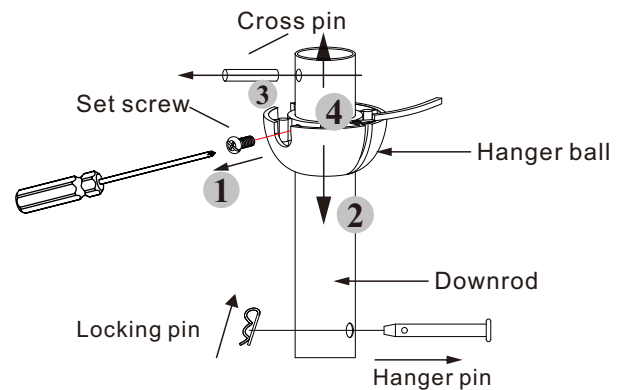

Figure 9
b. Remove the hanger pin, locking pin from the downrod assembly, and loosen the set screws from the coupling (Fig. 9)